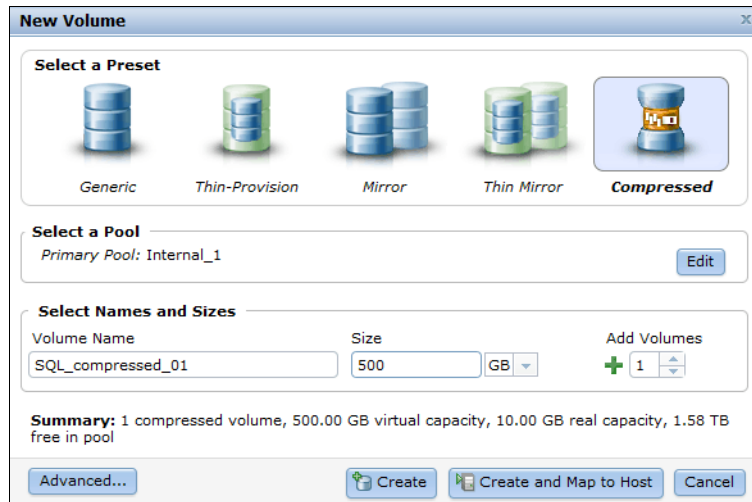
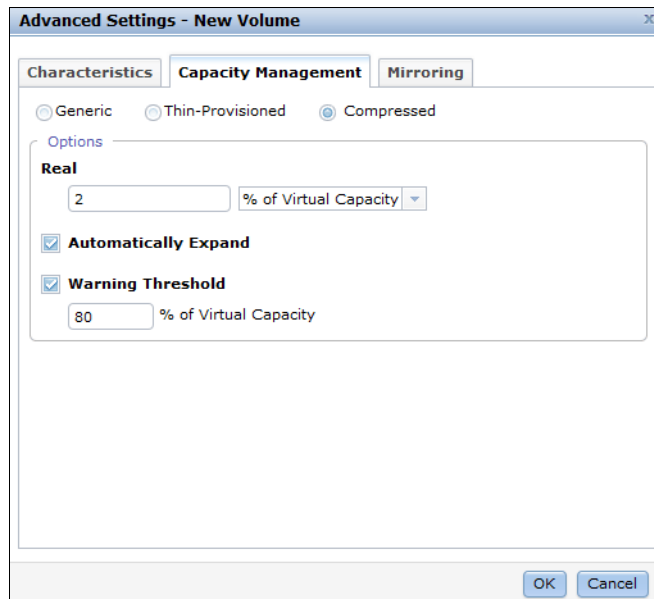

Figure 6-20 Compressed Volume - Enter name and size
Figure 6-21 Compressed Volume - Advanced properties
2. Select a pool where you want the new Compressed volume as shown in Figure 6-20. Type a name for the new Compressed volume, and the size and click Create.
3. In Figure 6-20, you can click Advanced and choose capacity management options as shown in Figure 6-21.